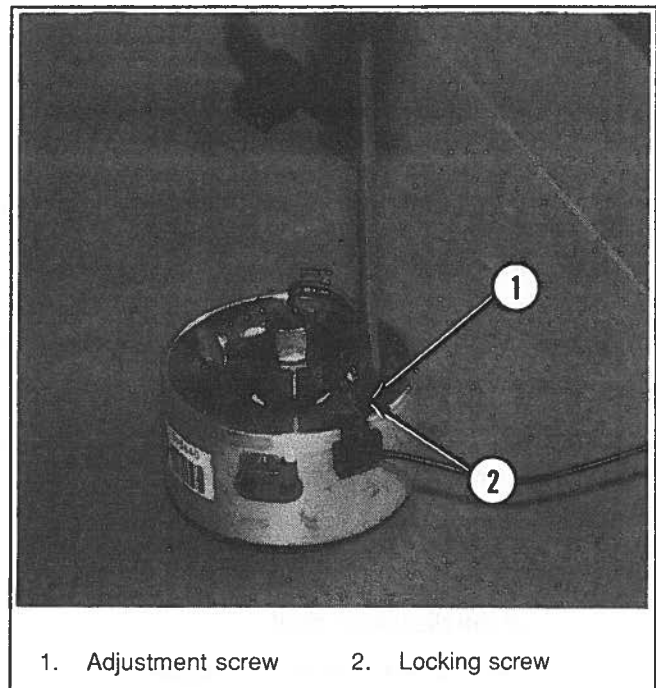

Figure 6-39. Adjusting Point Gap
3. Loosen the lock screw and adjust the points to specifications (Figure 6-39).